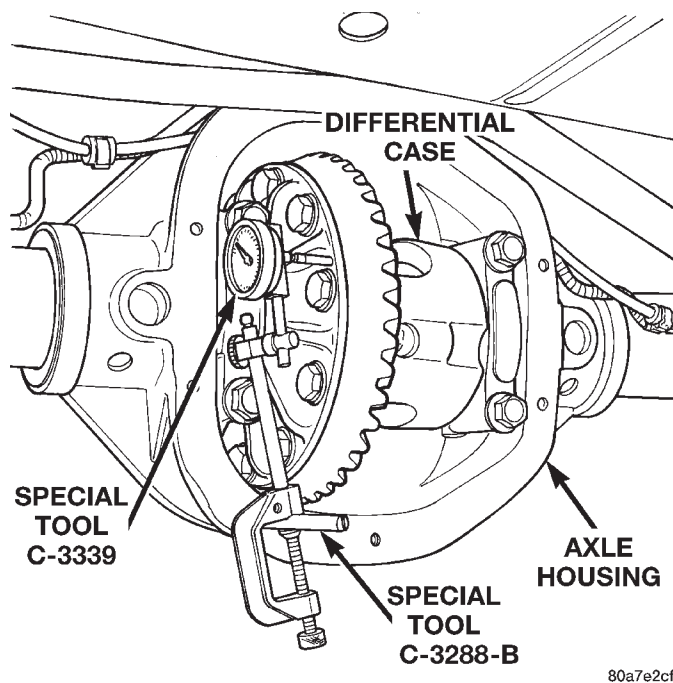

Fig. 71 Differential Side play Measurement
- (8) Thread guide stud C-3288-B into rear cover bolt hole below ring gear (Fig. 71).
- (9) Attach a dial indicator C-3339 to guide stud. Position the dial indicator plunger on a flat surface between the ring gear bolt heads (Fig. 71).
(20) Position the dial indicator plunger on a flat surface between the ring gear bolt heads. (Fig. 71).